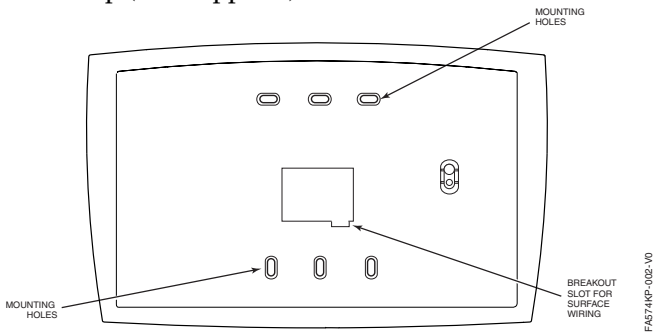

Figure 3. Wiring Entry (Case Back)
2. Pass the four power/data wires, wires for up to four zones, and two or three relay contact wires through the opening in the case back. If surface wiring is being used, wiring may be routed through breakouts in the case back. See Figure 3. The breakouts must be punched out using a screwdriver **before** mounting the case back. If desired, wires may be strain-relieved to the wire tie point on the inside of the case back with a tie wrap (not supplied).
Either conventional EOL resistor supervised zones or double-balanced zones (see Fig. 3) may be selected (default = conventional EOLR). Consult the panel's installation guide for supervision types supported. Use the [*] key to advance to the Tamper option.